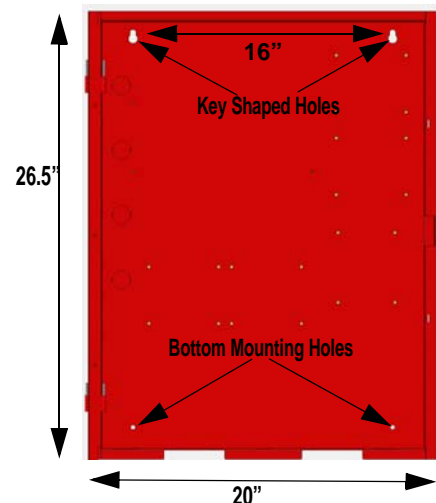

Figure 2: Cabinet Mounting Holes
1. Mark and predrill holes in the wall for the center top keyhole mounting bolts using the dimensions in Figure 2.